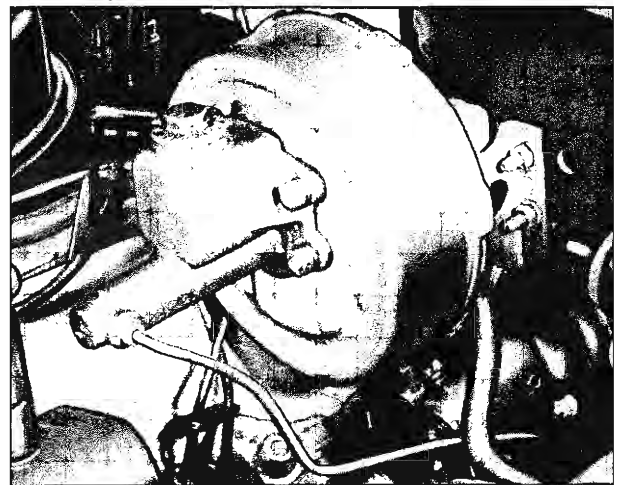

Fig. 30—Power Brake to Dash Mounting (Moraine Unit Shown)
2. Remove vacuum hoses from power brake unit (fig. 30).